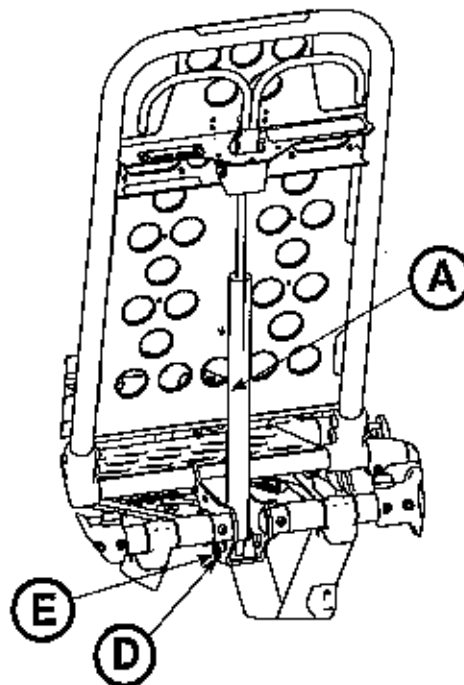
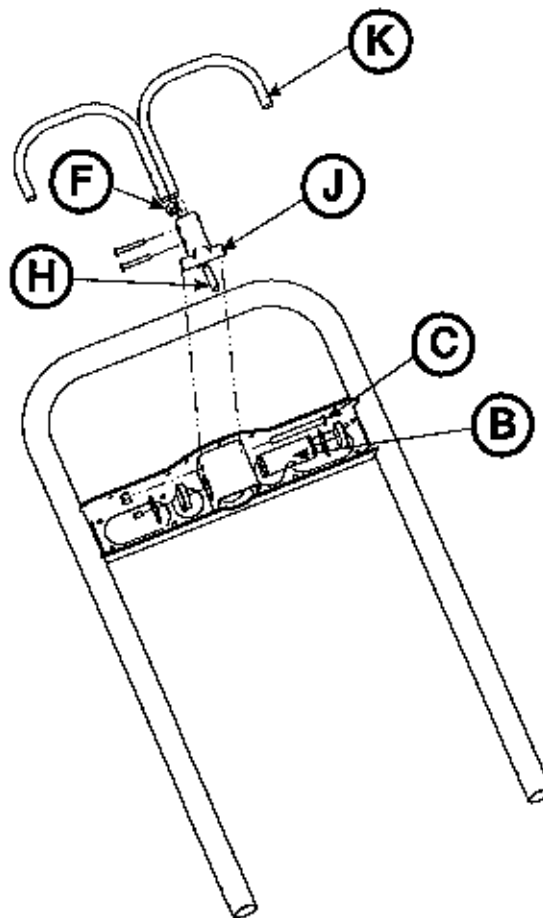

Figure 97
Figure 98
Note: Before continuing with the backrest adjustment procedure, be sure that the cylinder (A) is completely threaded into the yoke (B) so no threads are showing on the shaft of the cylinder. If threads are showing, use a 3/32" hex wrench to remove the set screw (C) in the center of the yoke. Using a small slotted screwdriver, remove the E-clip and pin (D & E) that holds the bottom of the pneumatic cylinder. Thread the cylinder shaft (A) completely into the yoke (B). Replace the E-clip and pin (D & E) and replace the set screw (C) using Loctite®. (Figure 97 and Figure 98)
2. Using a 1/2" combination wrench, loosen the hex nut (F) on the backrest pivot (J) while holding the set screw (H) fixed in the pivot (Figure 98).
3. Using a 5/32" hex wrench, turn the set screw (H) until there is no play between the backrest release handle (K) and the pneumatic cylinder release button (Figure 98).
5. Using the 1/2" combination wrench, tighten the hex nut (F) while holding the set screw fixed in the pivot (Figure 98).